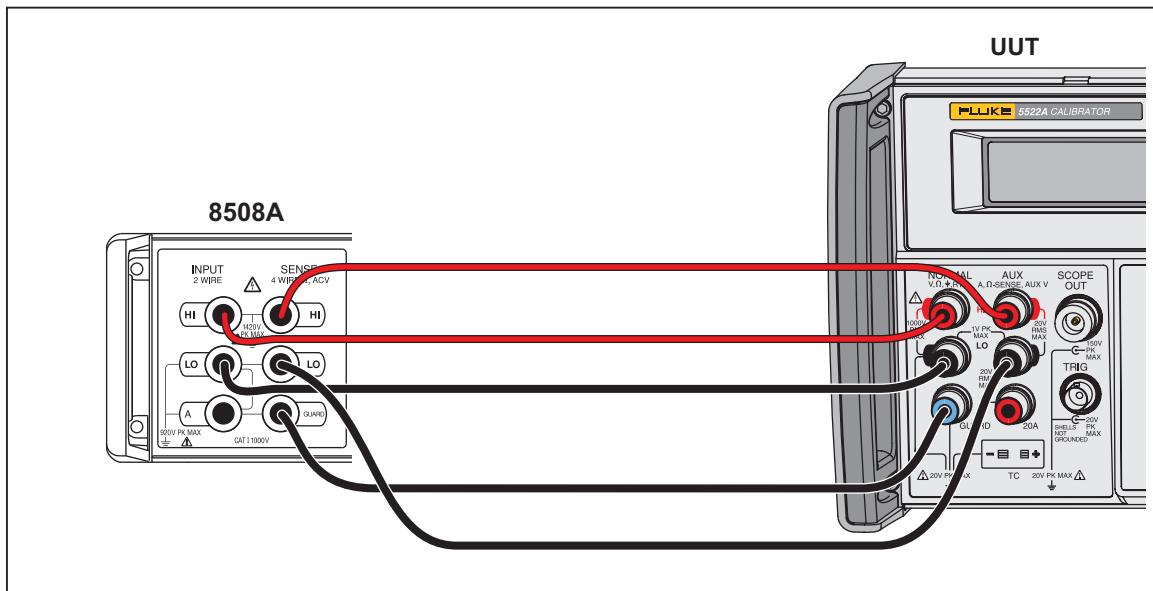

Figure 3-10. 4-Wire Resistance Connection
4. Follow the instructions on the Control Display to connect the 8508A to the UUT for 4 wire ohms measurement as shown in Figure 3-10.